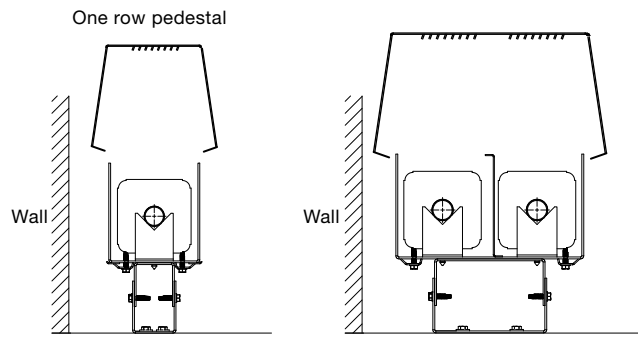

Figure P-4
4. Install the enclosure over the pedestal bracket. (Figure P-4)